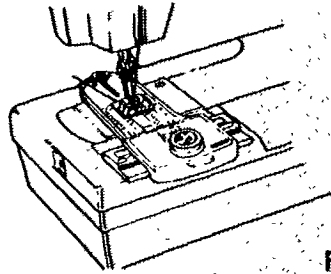

Fig. 4
5. Pick up bobbin thread through guide plate by turning hand wheel and drawing thread to back of machine. Place fabric between presser foot and guide plate. Line up edge of fabric with marked indentation on guide. See Fig. 4. If you wish all buttonholes to be  $\frac{3}{4}$  inch from edge of garment, line up fabric with  $\frac{3}{4}$  inch marking each time you start sewing a buttonhole.